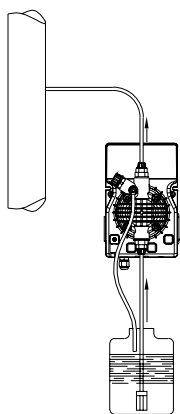
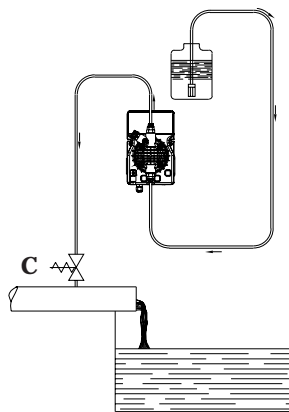

Fig. 5
Fig. 6
- c.- Locate the pump as shown in fig. 5 bearing in mind that it may be installed either below or above the level of the liquid to be dosed, though the level difference should not exceed 2 meters. When the process plant in which the pump is installed is operating at atmospheric pressure (no back pressure) and the chemical tank is situated above the plant (Fig. 6), the condition of the injection valve should be checked at regular intervals, because excessive wear and tear could cause additive to drip into the plant even when the pump is shut down. If the problem persists, install a properly calibrate counter-pressure valve (C) between injection point and the valve. In the case of liquids that generate aggressive vapours, do not install the pump above the storage tank unless the latter is hermetically sealed.